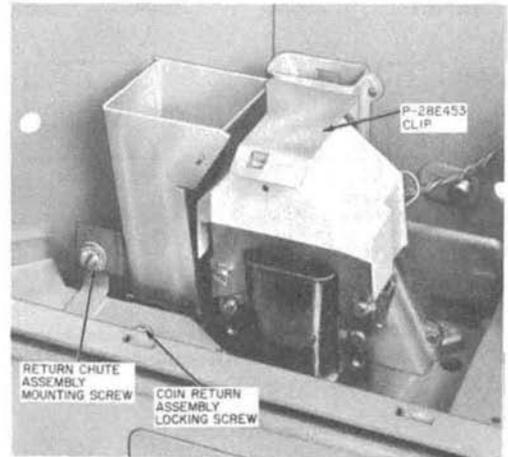

Fig. 18—Coin Relay and Return Chute Assembly
4.14 To remove return chute assembly (Fig. 18):
4.16 To remove coin relay (Fig. 18):
- Install dust cover and P-28E453 clip (Fig. 18).
- Remove coin return assembly locking screw (Fig. 18).